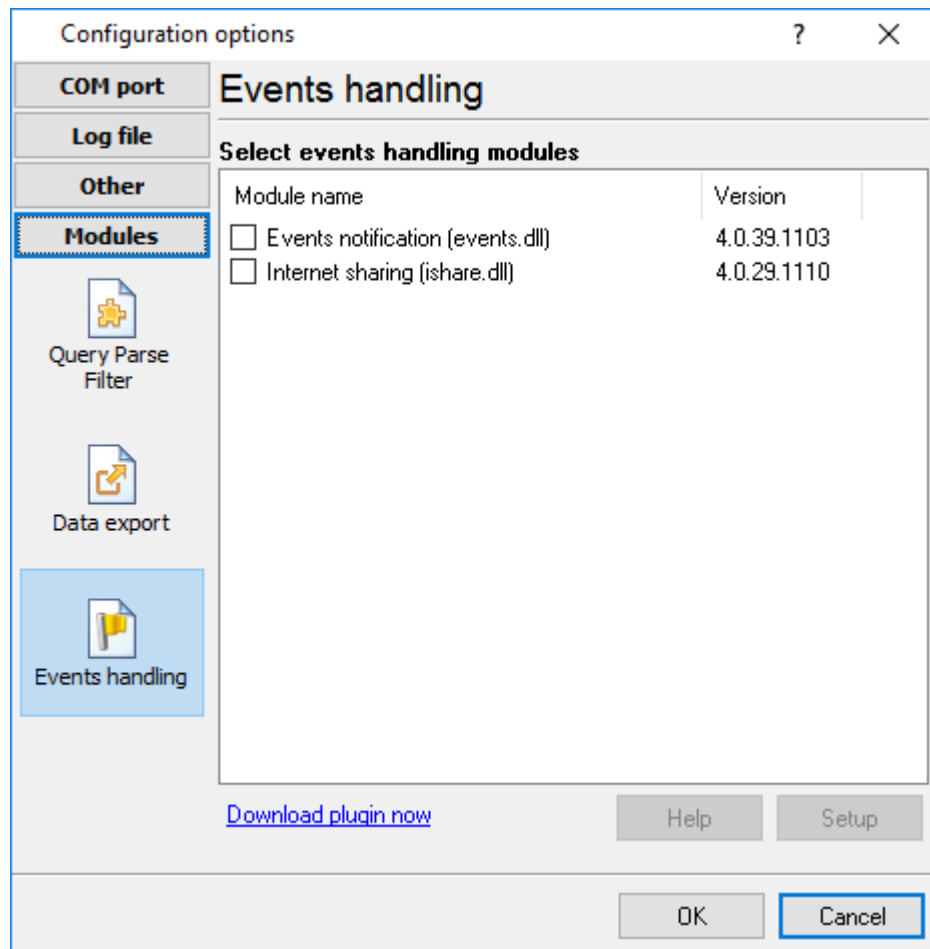

Fig. 18. Activating events handling plugins
- **Data export** (fig. 18) - Accurate Printer Monitor has many modules and method for passing data to other applications, for example, there are modules for various databases, file formats (CSV, XML), data interfaces (OPC, DDE, MQTT), and many others.